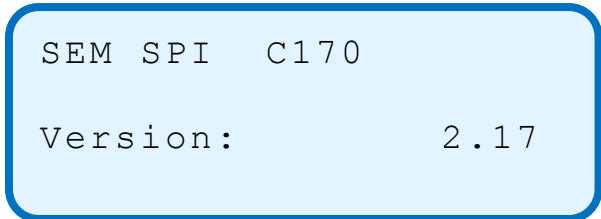

Figure 6.1.2.
2. The boot screen appears on the display. The current software version is also displayed. See *figure 6.1.2*.